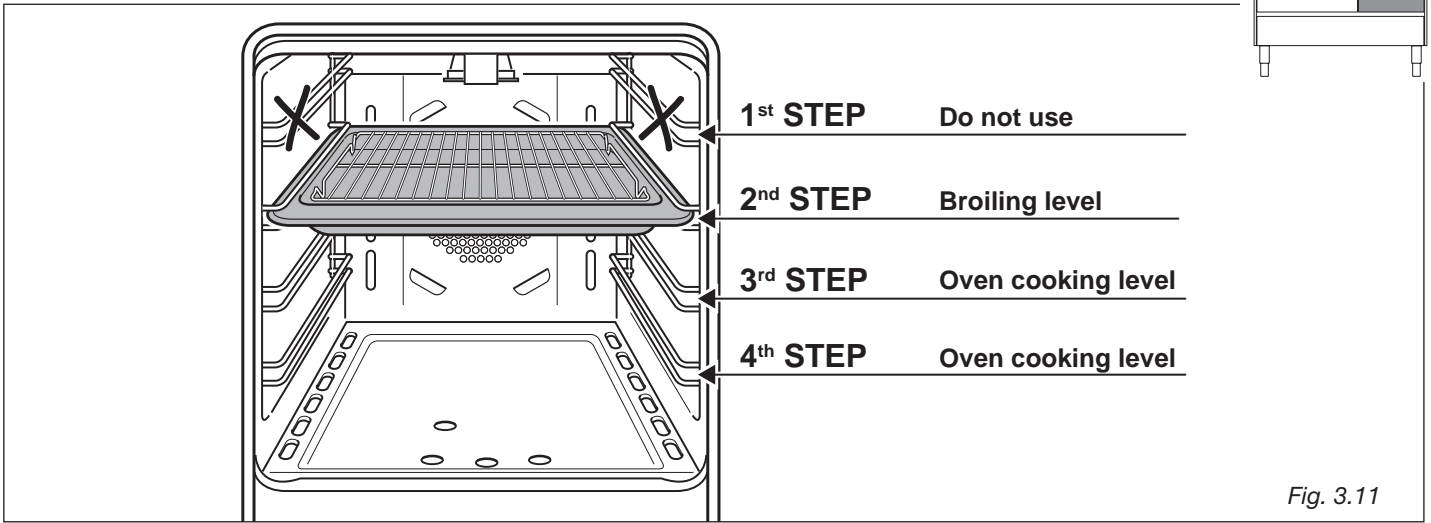
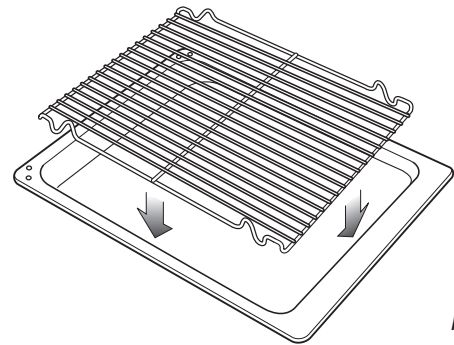

Fig. 3.11
Fig. 3.12
- Introduce the grill-pan (tray + grid) in the oven (fig. 3.12) and insert it on the second level from the top (fig. 3.11).